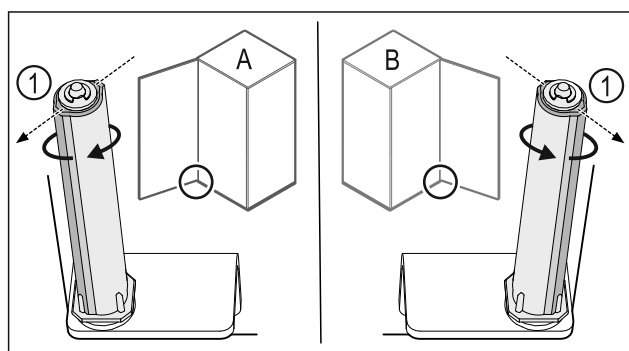

Fig. 44 Left-hinged (A) / Right-hinged (B)
- Turn the closing system against the resistance until the bar of the closing system Fig. 44 (1) points outwards.